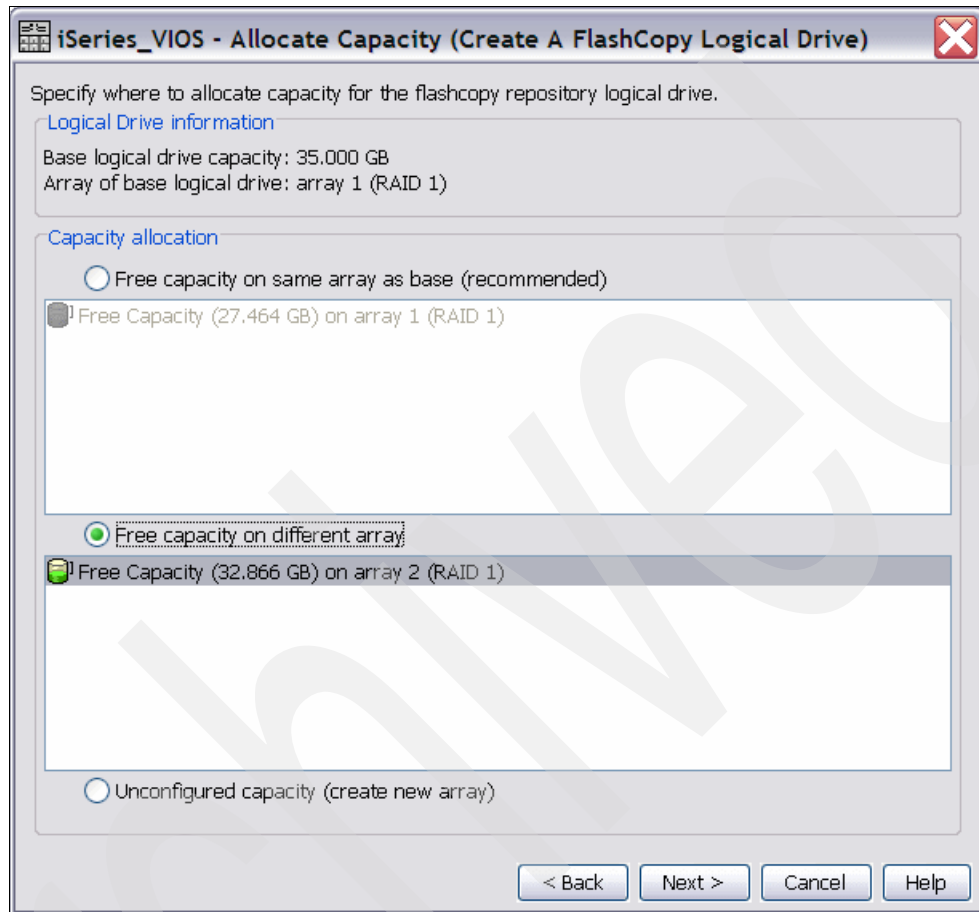

Figure 8-7 Select array for FlashCopy repository logical drive
8. In the next wizard window select whether to define the FlashCopy repository logical drive from the same array as the base drive or to use another array. In our setup we do not have enough free capacity for all repository drives on the same array on which base drives are defined, so we choose another array. See Figure 8-7.